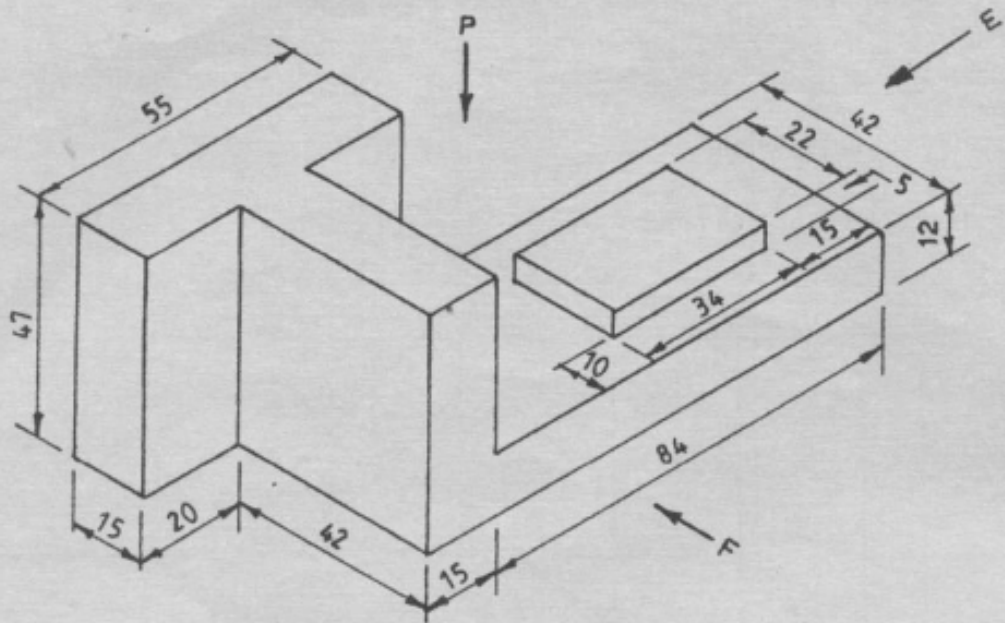

Fig. 4
8. Figure 4 shows a pictorial view of a block. Draw full size in first angle projection the following: